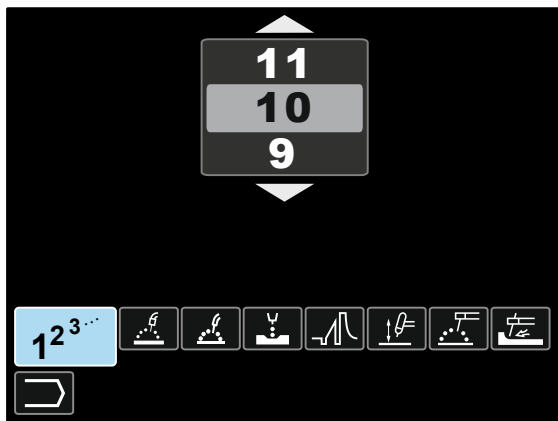

Figure 8.
- Use the Set Control [11] to highlight the Welding Program Choice icon – Figure 8.